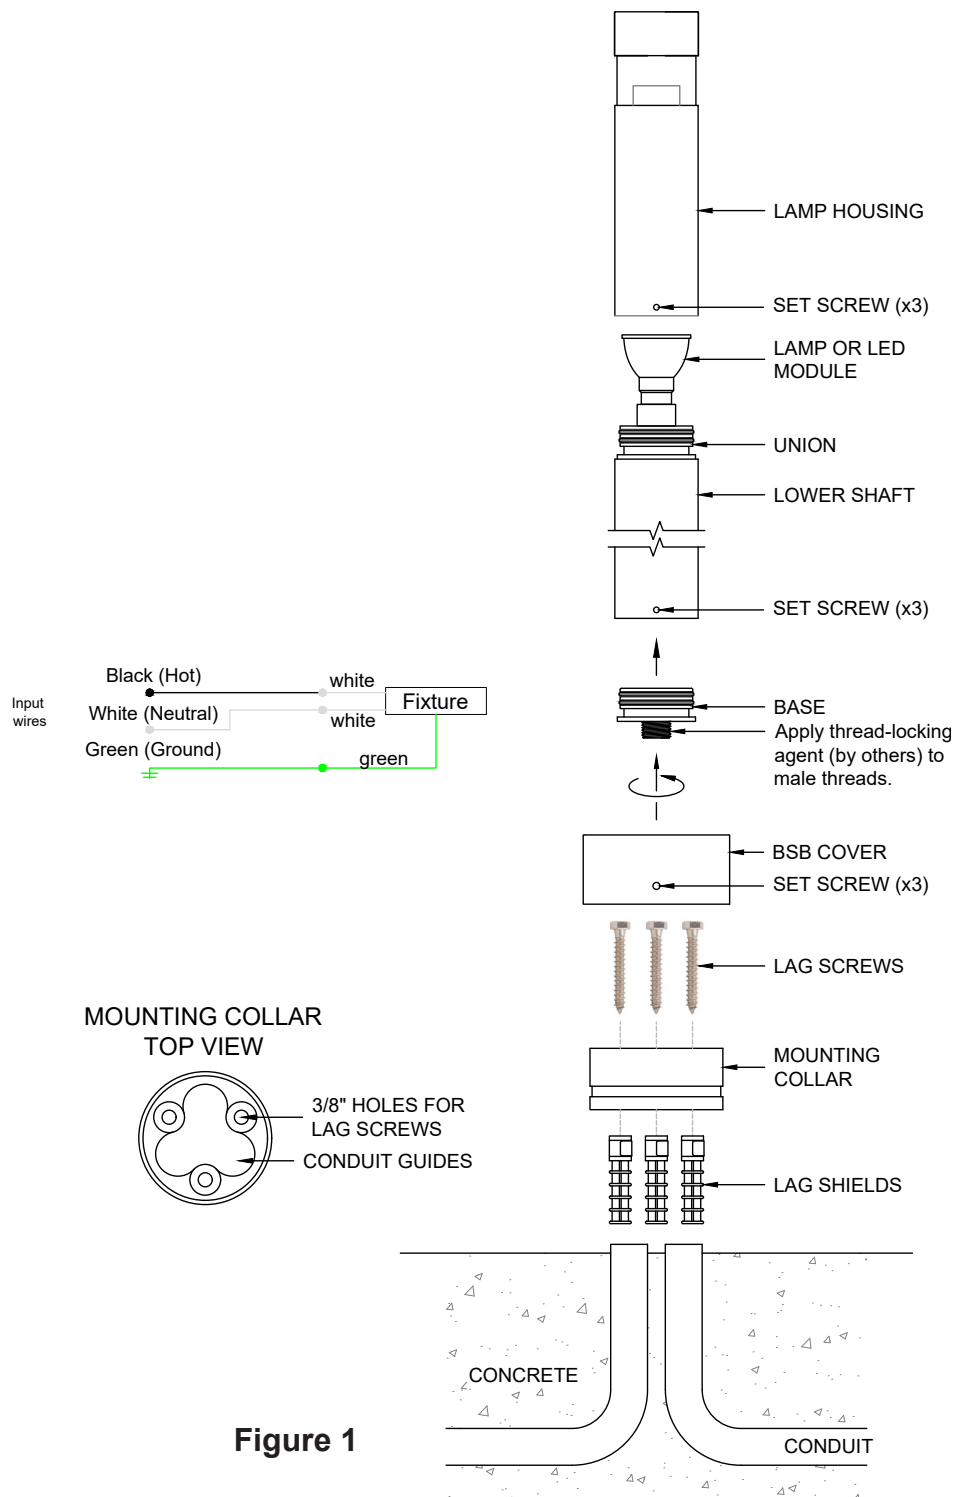

Figure 1
5. Dig a hole at desired location at least 12" diameter x 12" deep and run conduit as necessary for power supply wires, using the Mounting Collar for positioning. Conduit should stick up above top of concrete 1/4". (Figure 1)
12. Use included silicone-filled wire nuts to join fixture leads to supply wires as shown in Figure 1: the black lead connects to hot, the white to neutral, and the green to ground. Use silicone or electrical tape around wire nuts to ensure proper connection.
6. Use included silicone-filled wire nuts to join fixture leads to supply wires as shown in Figure 1: the black lead connects to hot, the white to neutral, and the green to ground. Use silicone or electrical tape around wire nuts to ensure proper connection.
2. To access the lamp compartment, loosen the three set screws at the bottom of the Lamp Housing with a 3/32" hex wrench and slide it straight up to remove, exposing the Lamp. (Figure 1)
5. If the fixture is equipped with a Lower Shaft, loosen the three set screws at its bottom with a 3/32" hex wrench and slide it up off the Base, pulling the wires up through the red silicone plug inside the Base. (Figure 1)